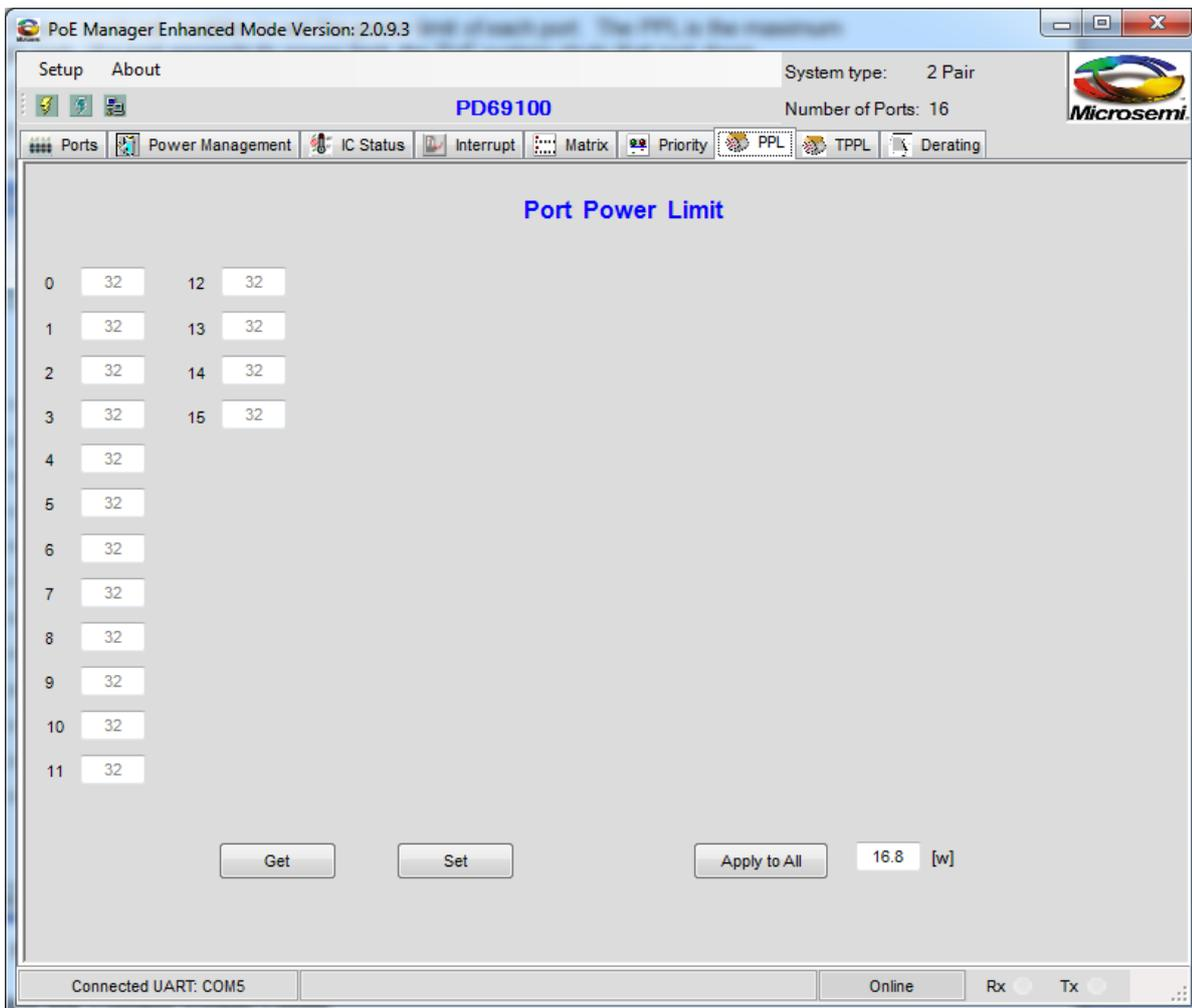

Figure 5-6: PoE Manager Enhanced Mode Window, PPL Tab (EMO)
- On the PoE Manager Enhanced Mode window, click the **PPL tab**. The following screen appears (Figure 5-6):